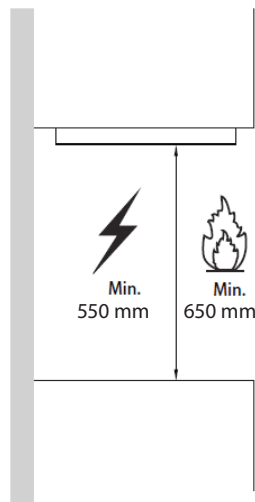

Fig. 3
2. Mark the required installation height (550 mm for electric and 650 mm for gas cooking plates) on the wall behind the cooker or the cooking plate (Fig. 3).